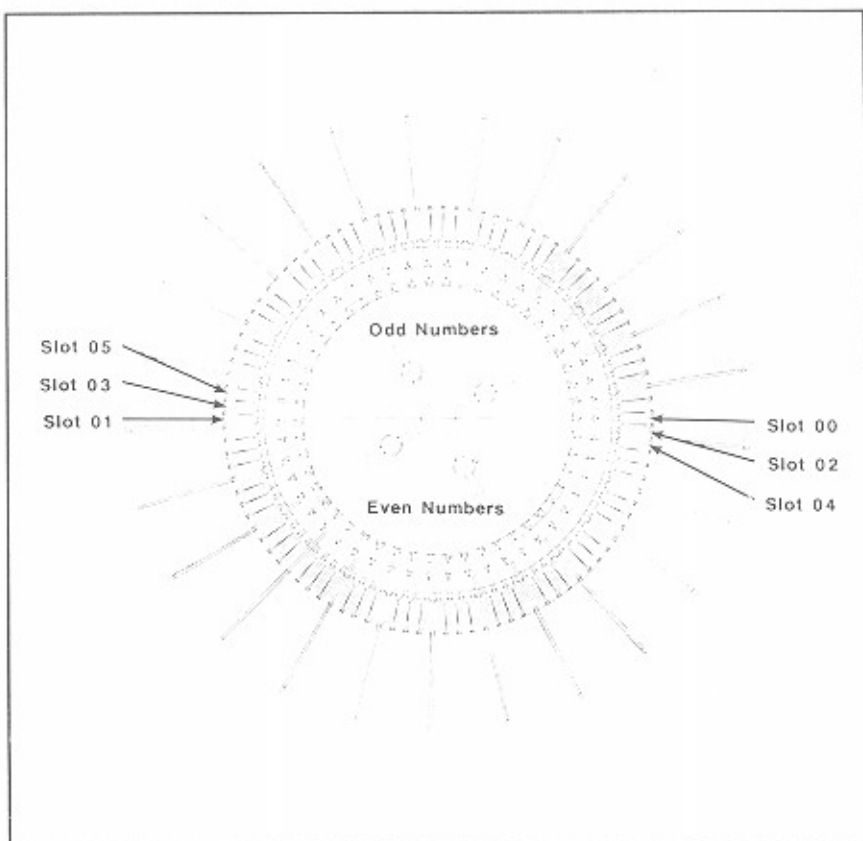

Figure 3-6. Loading The Molded CD Magazine
4. Slide the old CD out of the slot and slide the new CD into the slot (see figure 3-6) with the label to the right. Write the disc number on a note pad.
For example, on the even numbered half of the magazine, slots 00, 04, and 08 are labeled, and the slots in between - 02 and 06 - are not, as illustrated in figure 3-6.